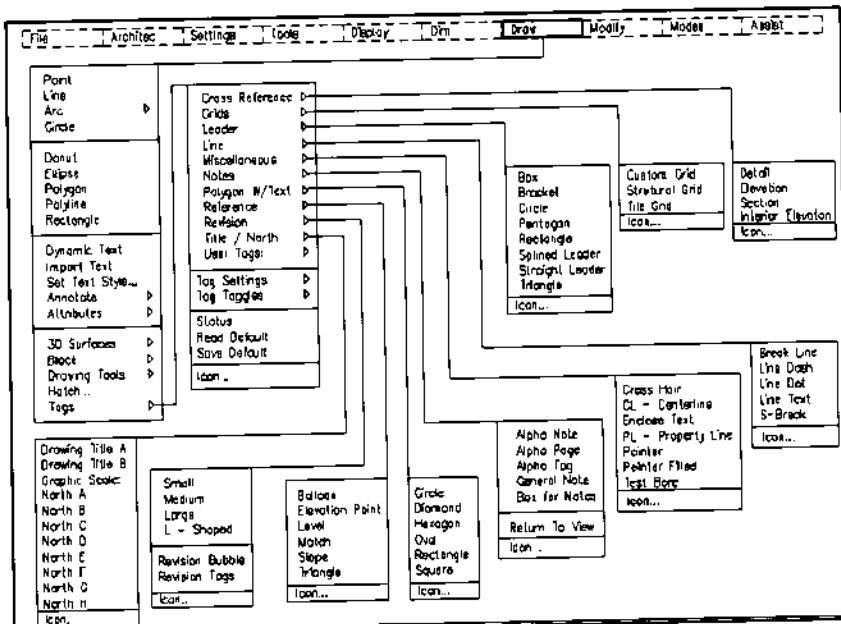

Figure 7.
- The entire library of tags is shown in Figure 7.